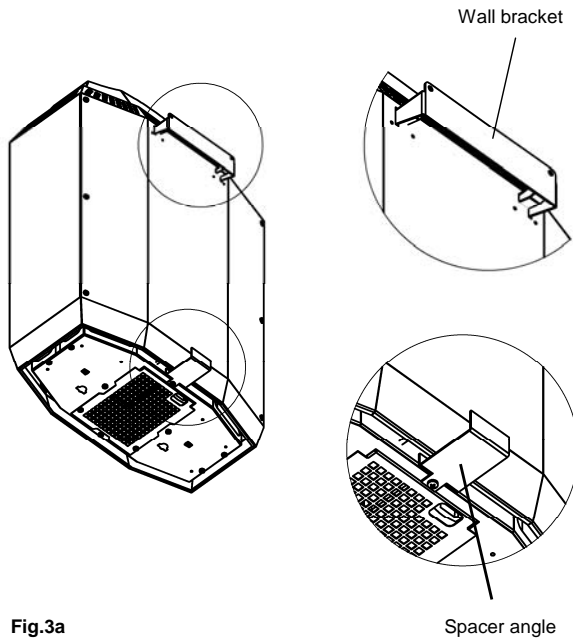

Fig.3a
- To mount the spacer angle, unscrew the screw from the floor plate and screw fasten the spacer angle at this position (see Fig. 3a).